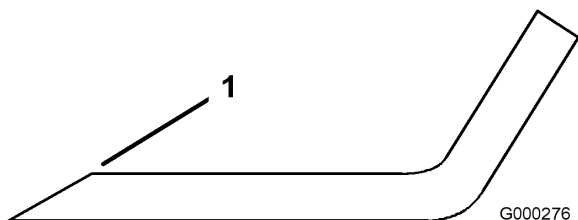

Figure 66
1. Use a file to sharpen the cutting edge at both ends of the blade (Figure 66). Maintain the original angle. The blade retains its balance if the same amount of material is removed from both cutting edges.